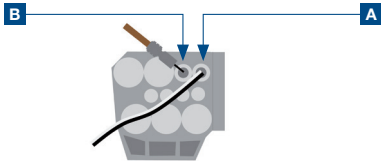

Figure 5
**Chamber A: (Figure 5)** black/white cable
**Chamber B: (Figure 5)** brown cable